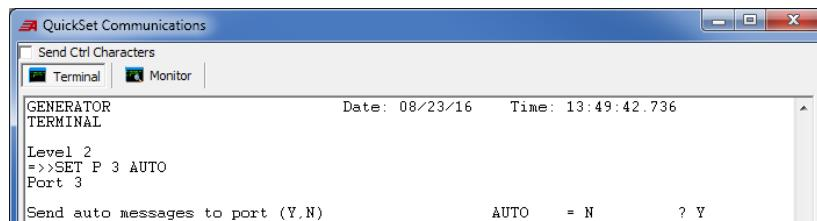

Figure 132 Enable Automessaging
Step 12. (Optional, but recommended) For quick event reporting, enable automessaging on the relay serial port. This allows the relay to send out an event notification immediately when the event occurs. Use any terminal application to change this relay setting, as shown in *Figure 132*. Enable the **Send Automessage** port setting.